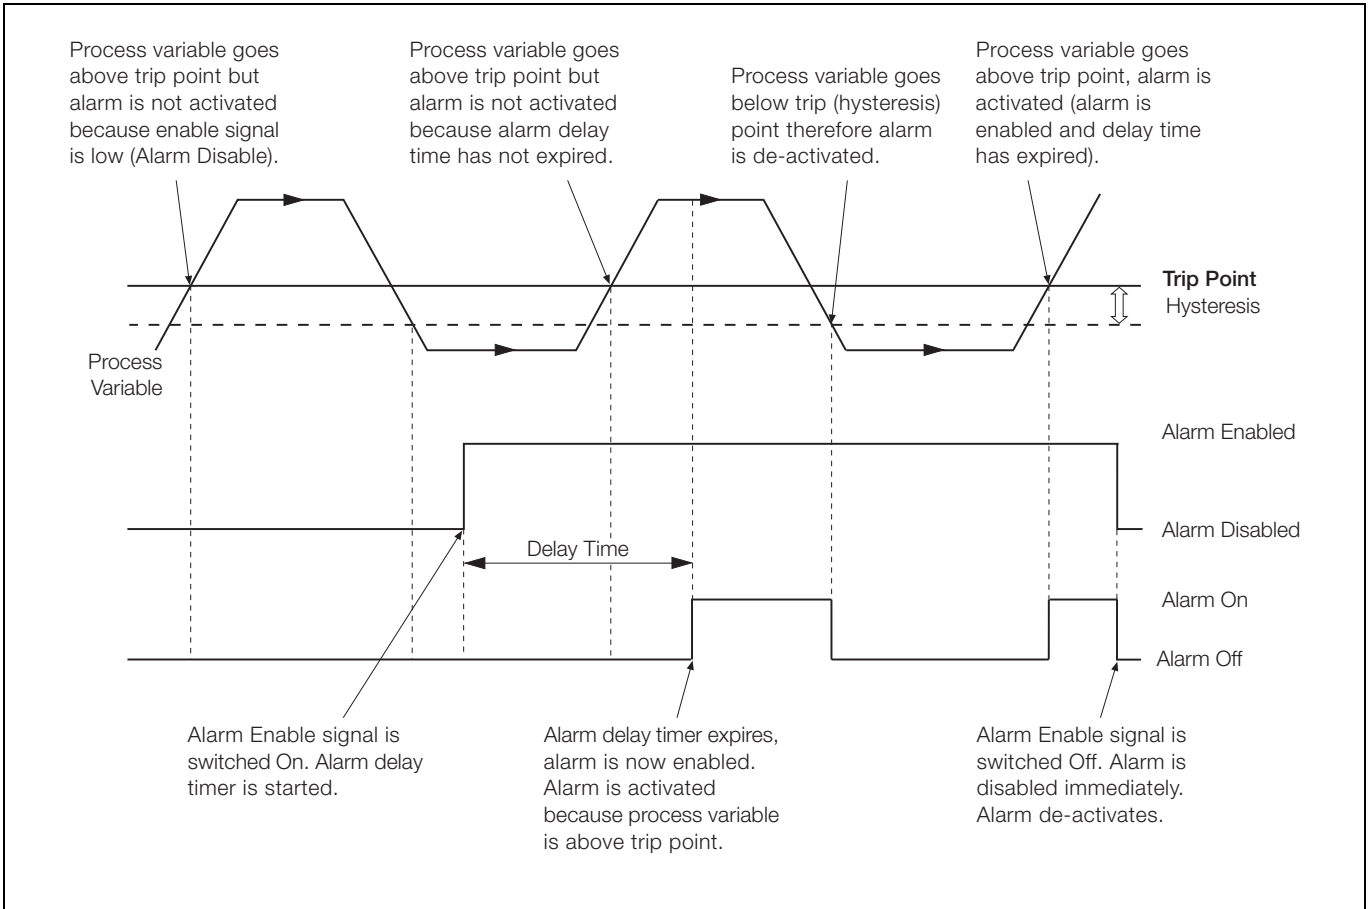

Fig. 6.18 Delayed High/Low Process Alarms
- Delayed high/low process – see Fig. 6.18, page 95
Note. For Delayed Process alarm operation, see Fig. 6.18, page 95.